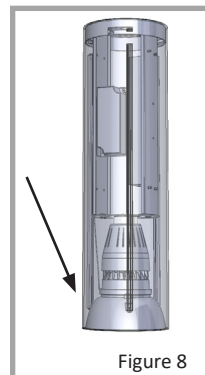

Figure 8
- Insert reflector/trim into bottom of cylinder by gently applying pressure until it snaps into place, automatically securing itself with spring clips and aligning itself with the Ym module. (Figure 8)